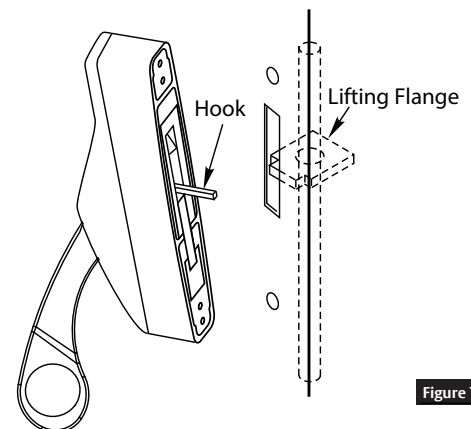

Figure 7
2. Drill 1/8" diameter hole through rod and tube using pre-drilled hole in bottom tube as guide. (Figure 7)
3. Insert hammer-lock cotter pin through hole and secure with punch and hammer. Flatten pin head completely. (Figure 7) Hang door.